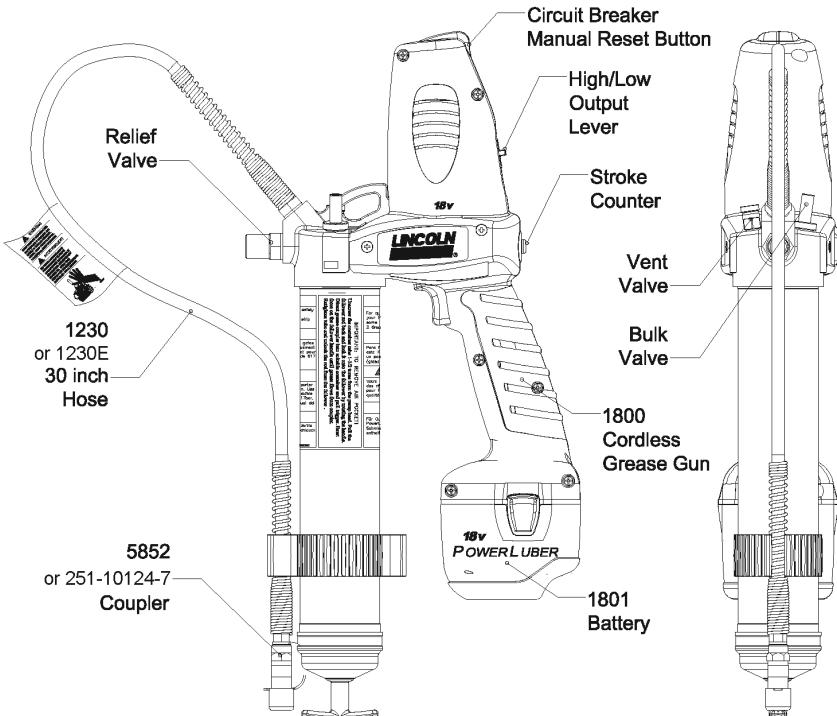

Figure 1
The safety valve (fig. 1) is factory set to relieve pressure above 7000 PSI (482 bar). The valve also is an indicator of the bearing and lubrication line conditions. If grease comes out of the relief valve, it indicates a clogged or tight bearing or fitting or line. Correct this before continuing lubrication with the PowerLuber.
The tool is equipped with capability for calibration. This is accomplished by measuring (weighing) grease flow output and dividing the weight of grease by number of strokes. Simply put your thumb on the stroke counter button (Fig. 1) during operation of the tool and count.
**When motor is not running**, push the lever (Fig. 1) until letter "L" or "H" will be completely visible in the window.
To prime, operate the gun until grease flows from the hose. Use vent valve (Fig.1) to expel air pockets.